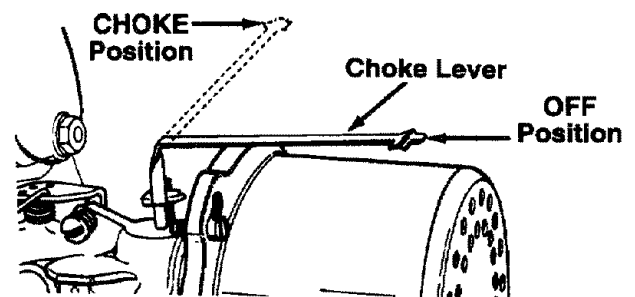

FIGURE 13.
- Move choke lever to CHOKE position (See figure 13.).
**NOTE:** If engine does not fire after three attempts, move choke lever halfway between CHOKE and RUN position and try again. See figure 13.
- Move throttle control lever to OFF position. See figure 13.